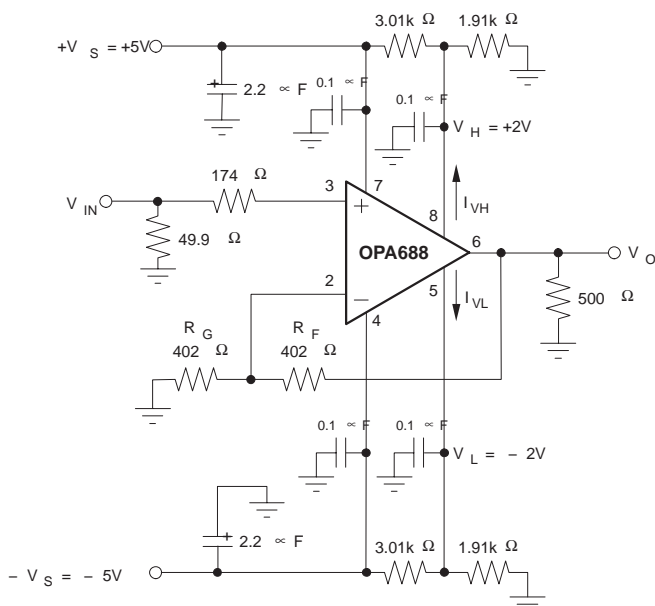
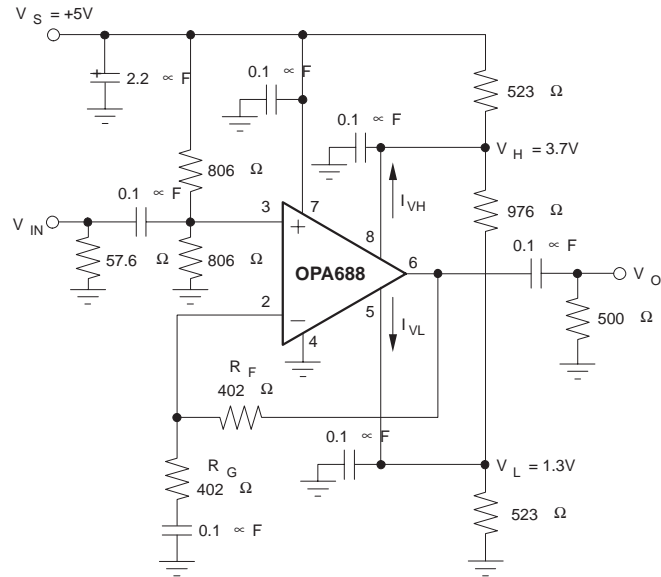
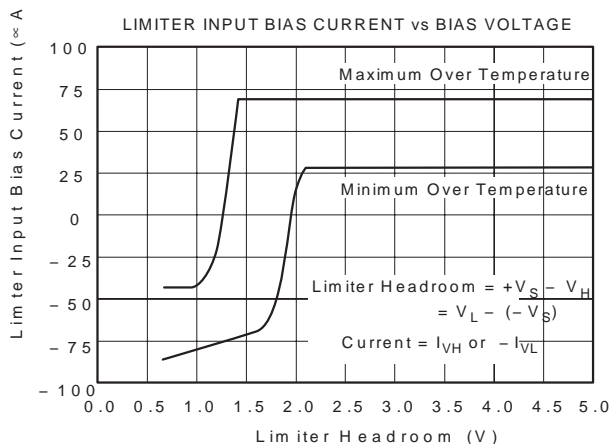

Figure 30. DC-Coupled, Dual Supply Amplifier
Figure 31. AC-Coupled, Single Supply Amplifier
Figure 37. Limiter Bias Current vs Bias Voltage
4. I_{VH} (V_H bias current) is positive, and I_{VL} (V_L bias current) is negative, under these conditions. See Note 3, Figure 31 and Figure 37.
Figure 30 shows a non-inverting gain amplifier for dual-supply operation. This circuit was used for AC characterization of the OPA688, with a 50-Ω source, which it matches, and a 500-Ω load. The power-supply bypass capacitors are shown explicitly in Figures 30 and 31, but will be assumed in the other figures. The limiter voltages (V_H and V_L) and their bias currents (I_{VH} and I_{VL}) have the polarities shown.
Figure 31 shows an AC-coupled, non-inverting gain amplifier for single +5V supply operation. This circuit was used for AC characterization of the OPA688, with a 50W source, which it matches, and a 500-Ω load. The power-supply bypass capacitors are shown explicitly in Figures 30 and 31, but will be assumed in the other figures. The limiter voltages (V_H and V_L) and their bias currents (I_{VH} and I_{VL}) have the polarities shown. Notice that the single-supply circuit can use three resistors to set V_H and V_L , where the dual-supply circuit usually uses four to reference the limit voltages to ground.
The OPA688 is nominally specified for operation using either ± 5 -V supplies or a single +5-V supply. The maximum specified total supply voltage of 12 V allows reasonable tolerances on the supplies. Higher supply voltages can break down internal junctions, possibly leading to catastrophic failure. Single-supply operation is possible as long as common mode voltage constraints are observed. The common mode input and output voltage specifications can be interpreted as a required headroom to the supply voltage. Observing this input and output headroom requirement will allow design of non-standard or single-supply operation circuits. Figure 31 shows one approach to single-supply operation.
When pins 5 and 8 are left open, V_H and V_L go to the Default Voltage Limit; the minimum values are in the Specifications. Looking at Figure 37 for the zero bias current case will show the expected range of $(V_S - \text{default limit voltages}) = \text{headroom}$.
When the limiter voltages are more than 2.1V from the supplies ($V_L > -V_S + 2.1 \text{ V}$ or $V_H < +V_S - 2.1 \text{ V}$), you can use simple resistor dividers to set V_H and V_L (see Figure 30). Make sure you include the Limiter Input Bias Currents (Figure 37) in the calculations (i.e., $I_{VL} \geq -50 \mu\text{A}$ out of pin 5, and $I_{VH} \leq +50 \mu\text{A}$ out of pin 8). For good limiter voltage accuracy, run at least 1-mA quiescent bias current through these resistors.
When the limiter voltages need to be within 2.1V of the supplies ($V_L \leq -V_S + 2.1 \text{ V}$ or $V_H \geq +V_S - 2.1 \text{ V}$), consider using low impedance buffers to set V_H and V_L to minimize errors due to bias current uncertainty. This will typically be the case for single supply operation ($V_S = +5\text{V}$). Figure 31 runs 2.5 mA through the resistive divider that sets V_H and V_L . This keeps errors due to I_{VH} and $I_{VL} < \pm 1\%$ of the target limit voltages.